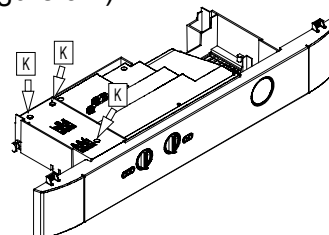

Figure 9.4
- 12) Loosen the screws K and remove the service panel (figure 9.4)